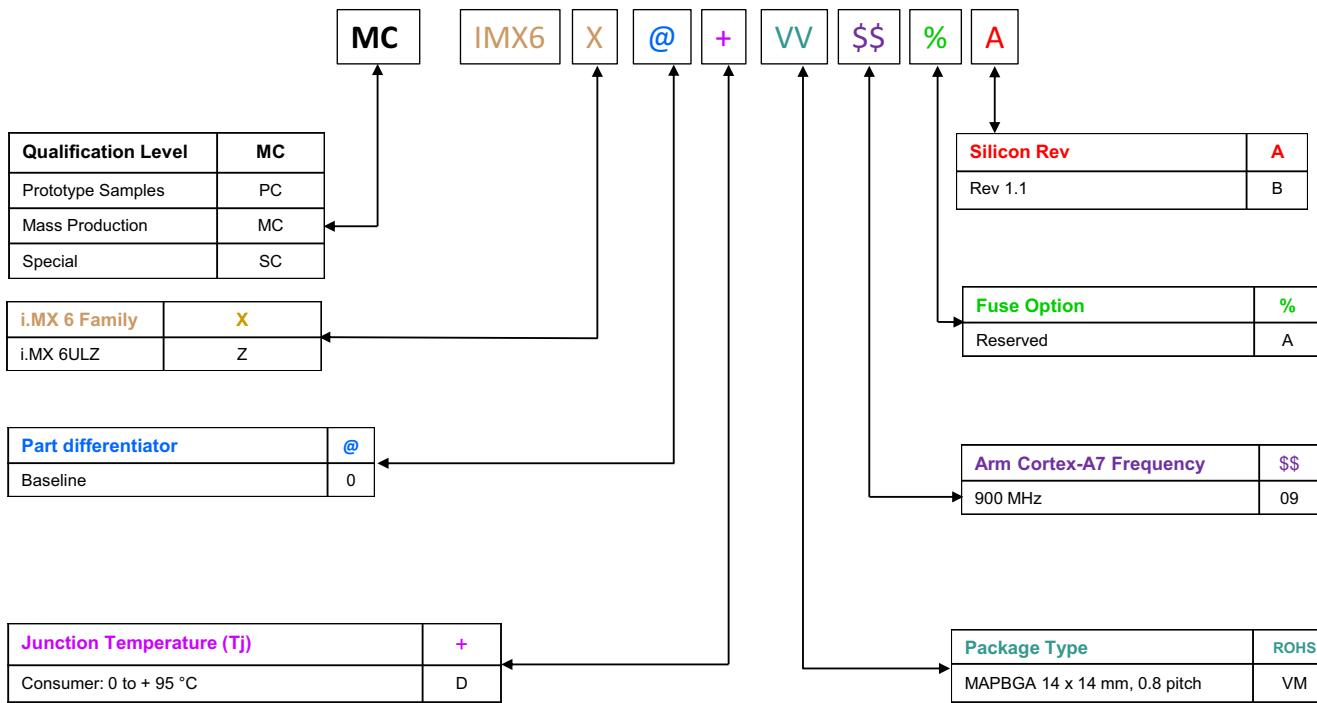

Figure 1. Part number nomenclature—i.MX 6ULZ
**Figure 1** describes the part number nomenclature so that the users can identify the characteristics of the specific part number they have (for example, cores, frequency, temperature grade, fuse options, and silicon revision). The primary characteristic which describes which data sheet applies to a specific part is the temperature grade (junction) field.